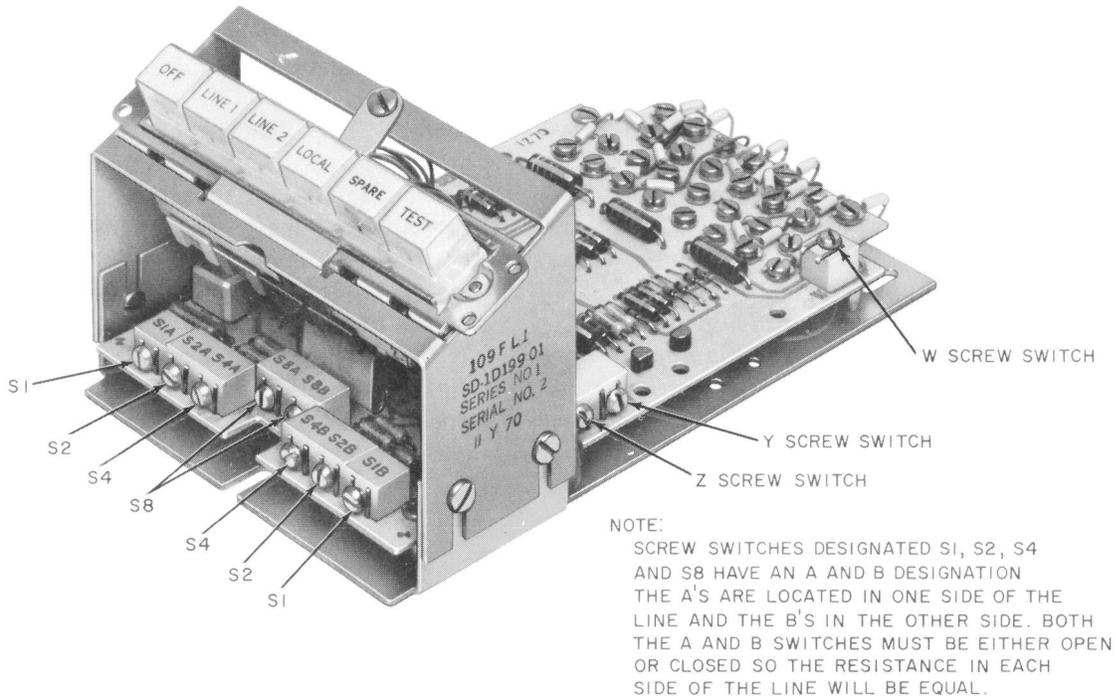

Fig. 9 — Data Set 109F — Location and Designation of Line and Option Screw Switches
- The Z option is installed by closing the Z switch and opening the Y switch (see Fig. 9).
- The Y option is installed by closing the Y switch and opening the Z switch (see Fig. 9).
- The X option is installed by opening both the Z switch and Y switch (see Fig. 9).
Note 2: In addition to the connections required to install the W and V options, screw switch W must be closed when the W option is provided and open when the V option is provided (see Fig. 9).
4.05 Make the screw-switch settings as determined in 4.04. The location of the screw switches referred to in this text is shown by Fig. 9.
etc, are opened and closed so that the resistance will always be equal in both sides of the line. The location of these switches is shown by Fig. 9. Table I gives the resistance provided by these switches.